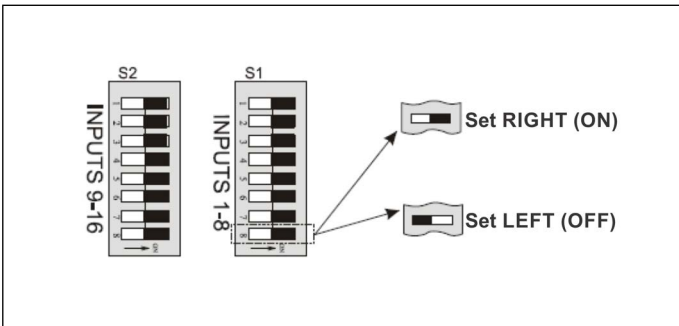

Figure 10 - MultiFlex Input Dip Switches
3. The **DIP** switch setting of the MultiFlex board terminal for the MRLDS-250 should be in the **OFF** position (see **Figure 10**) because it supplies its own voltage signal to the point: